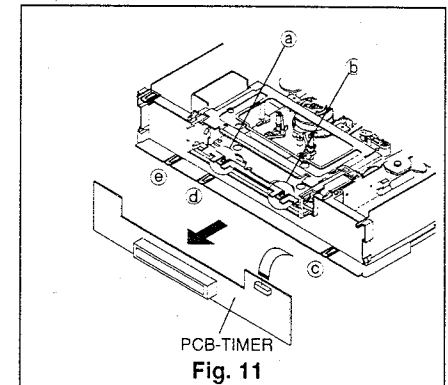

Fig. 11
- 3 Remove five catches (Ⓐ ~ Ⓔ), shown in Fig. 11, then remove the PCB-TIMER.